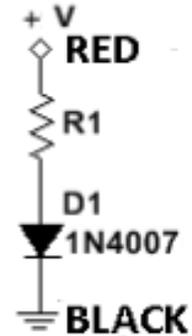

Fig 2.9. Diode Test Circuit
6.1) Referring to Figure 2.9 we will measure the *voltage across* a type **1N4007** rectifier diode as a function of current. The "9 volt" AC adapter supply voltage when loaded yields about 13-16 volts. We will measure the diode voltage V_d directly across the diode and the resistor voltage directly across a known R_1 . KCL tells us that the diode current I_d is the same as the resistor current I_R . Fill in the data for Table 2.1 (below) showing on each line the values for the resistance R_1 , and the measured voltages across the resistor and diode. Then calculate the current $I_R = I_d$ in mA. The schematic symbol at the bottom of diode D_1 in Figure 2.9 is called the "ground" or sometimes the "common ground" (*in this case it is the BLACK LEAD from the negative side of the power source connector*).
Use the following 1/2 watt resistors from the Pratt kit to create as the R_1 in Figure 2.9: